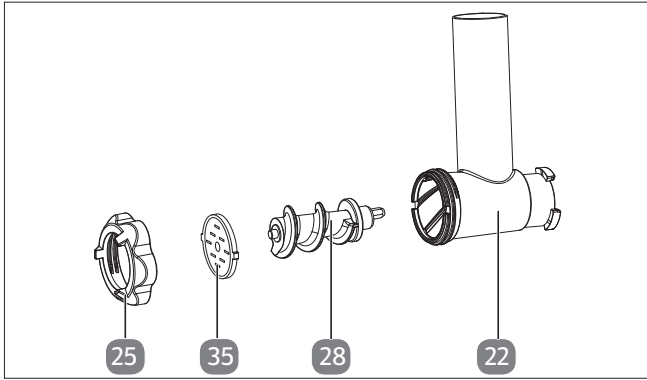

Fig. 23 – Pasta accessories
1. Assemble the accessories as shown (see Fig. 23).